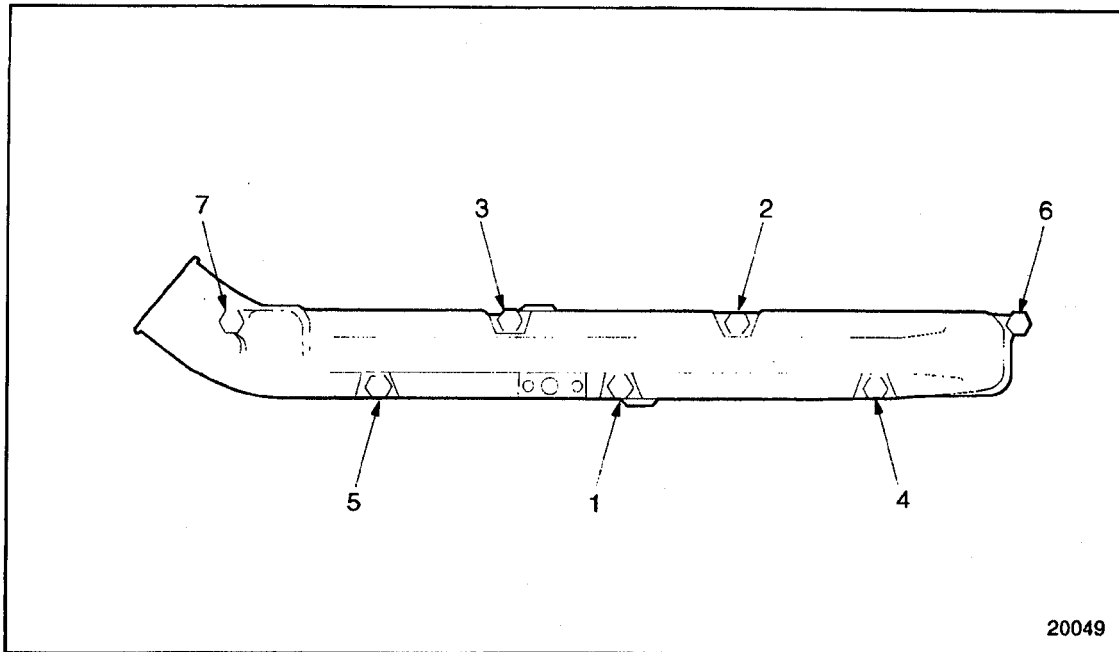

Figure 6-13 Intake Manifold Bolt Position and Torque Sequence
2. Install bolts six and seven through the intake manifold and into the cylinder head and hand-tighten. See Figure 6-13.
3. Install the five remaining bolts through the intake manifold and into the cylinder head. Torque all of the intake manifold retaining bolts to 58-73 N·m (43-54 lb-ft) in the proper torque sequence. See Figure 6-13.